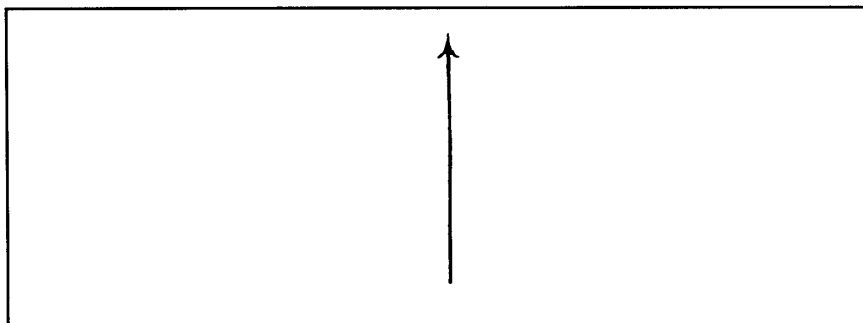

Figure 6-18. Automatic weapon symbol.
- Weapon symbol. (Figure 6-18.)